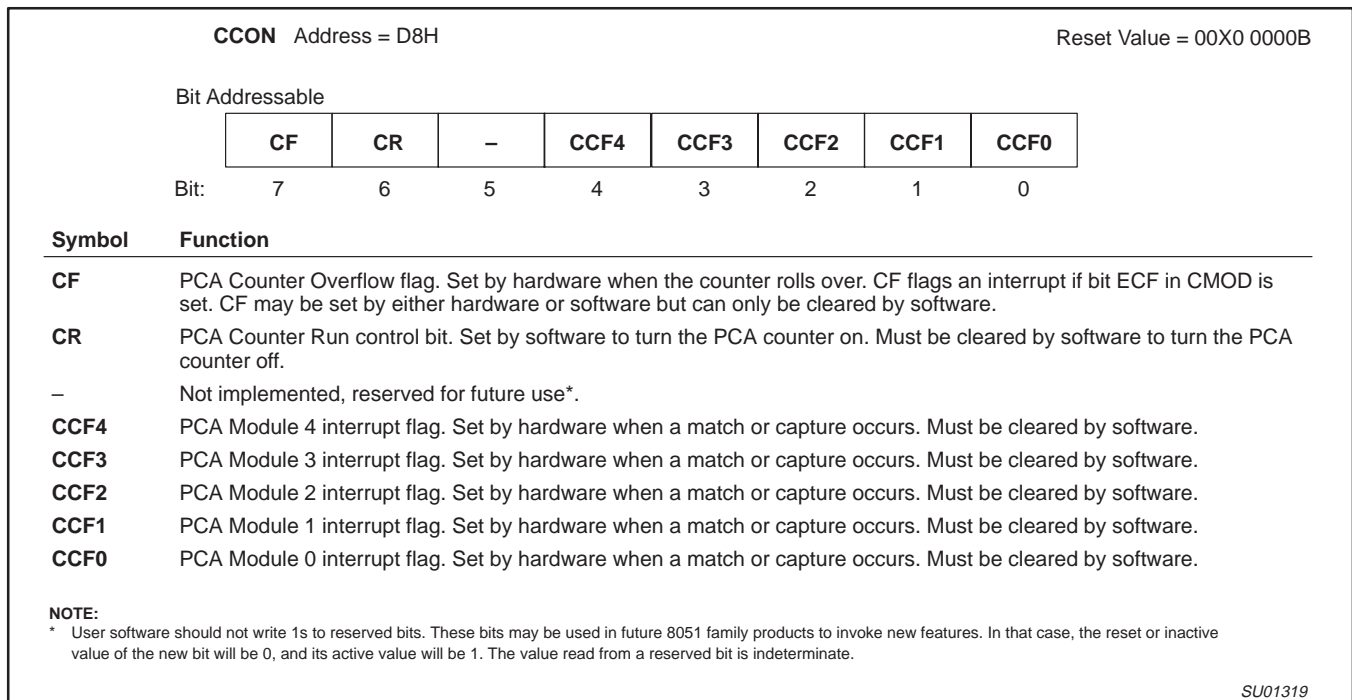

Figure 39. CCON: PCA Counter Control Register
The CCON SFR contains the run control bit for the PCA and the flags for the PCA timer (CF) and each module (refer to Figure 39). To run the PCA the CR bit (CCON.6) must be set by software. The PCA is shut off by clearing this bit. The CF bit (CCON.7) is set when